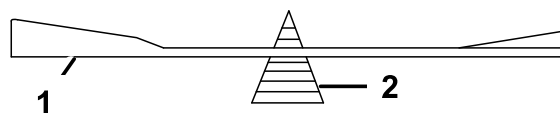

Figure 82
2. Check the balance of the blade by putting it on a blade balancer (Figure 82).